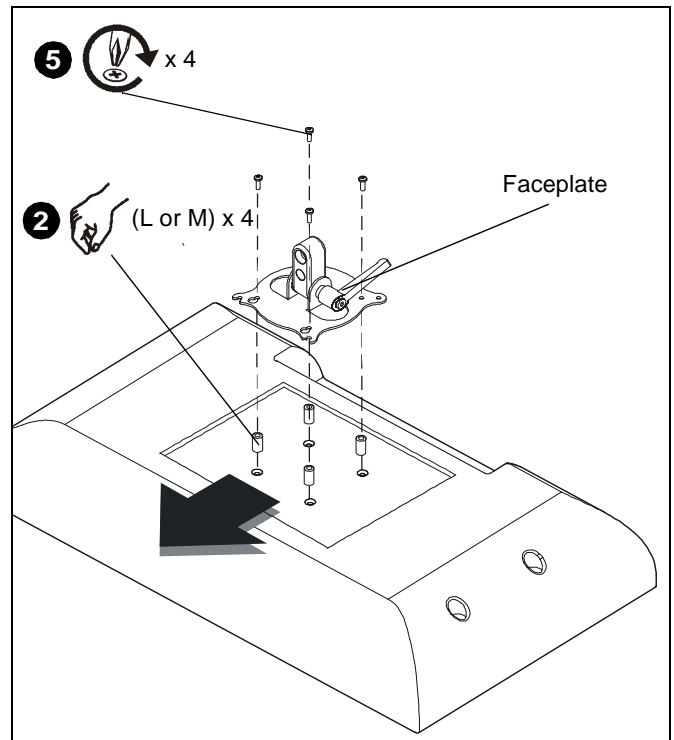

Figure 5
- Place spacer (L or M, as applicable) over each mounting hole on back of display (See Figure 5). Select shortest spacer which will provide adequate fill. All spacers must be same length.
NOTE: In Figure 5 the swing arm has been removed for clarity.
5. Install screws (H, J or K; as applicable) through mounting holes on faceplate and spacers (L or M, if applicable) into display. (See Figure 5)